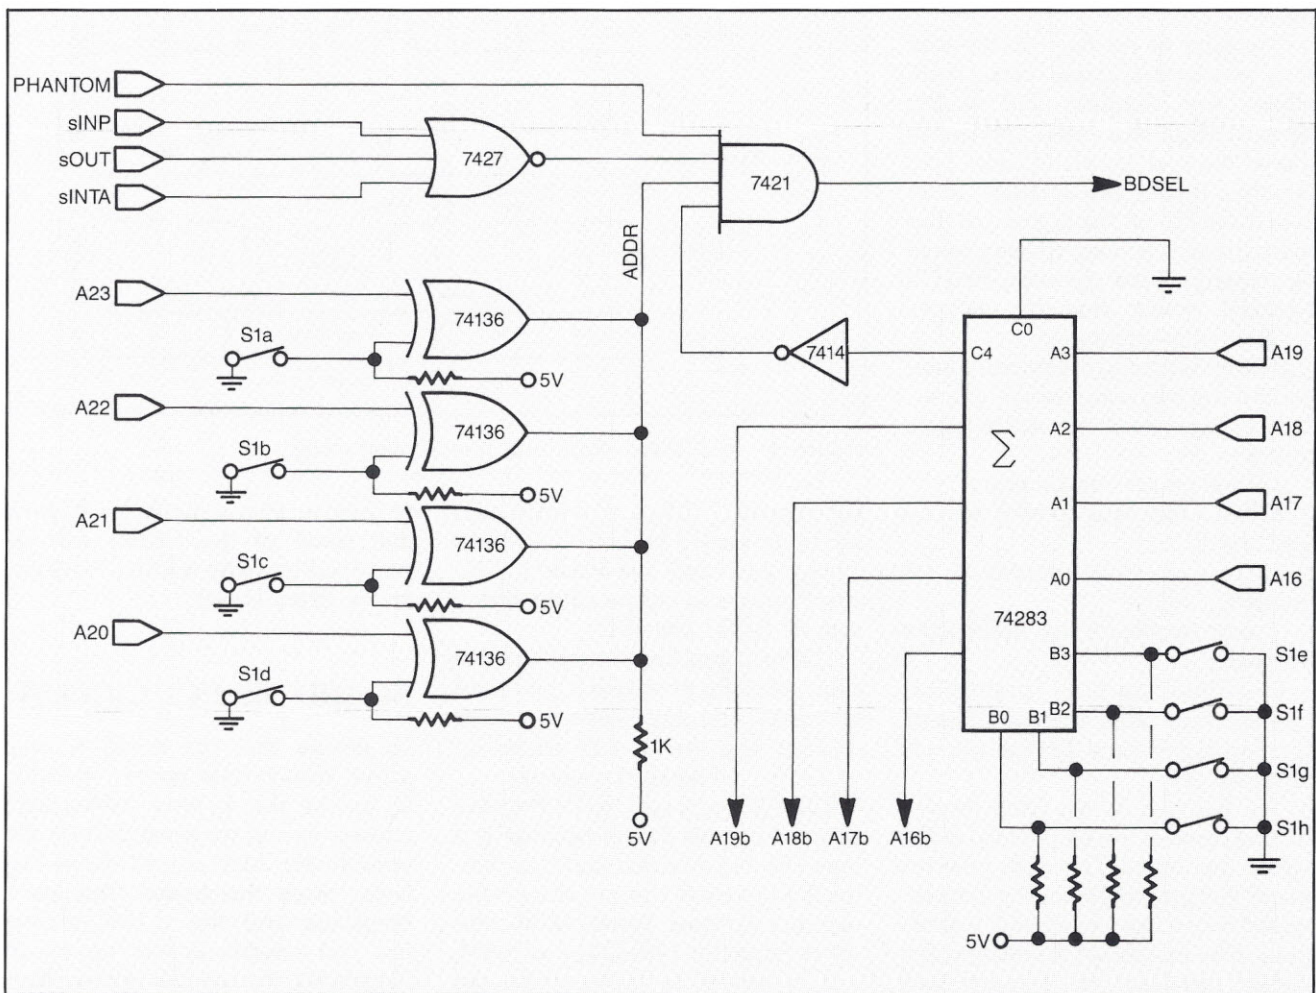
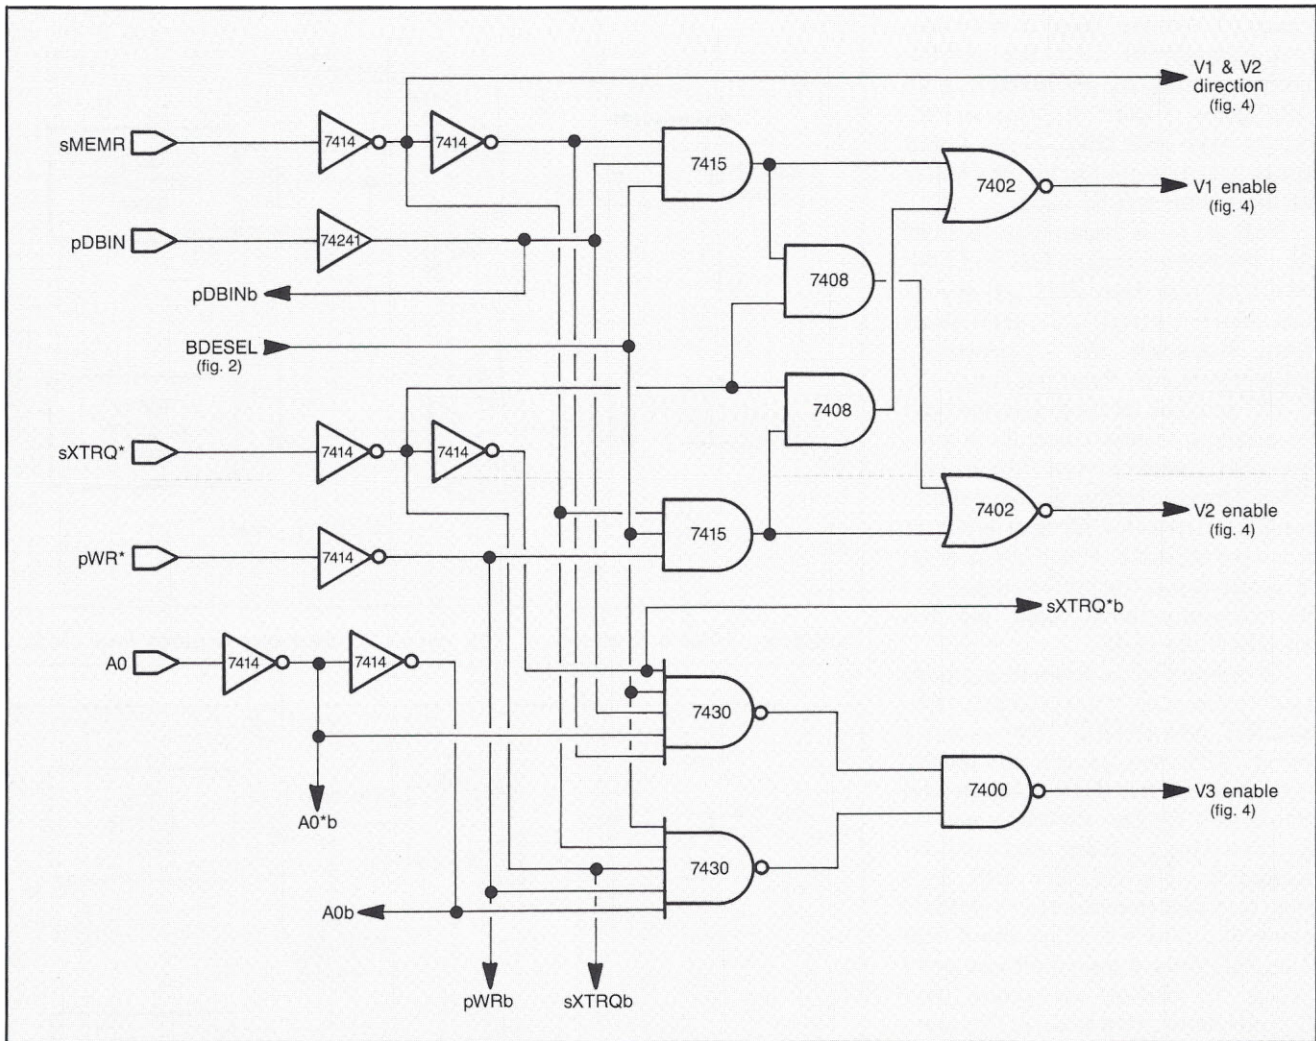
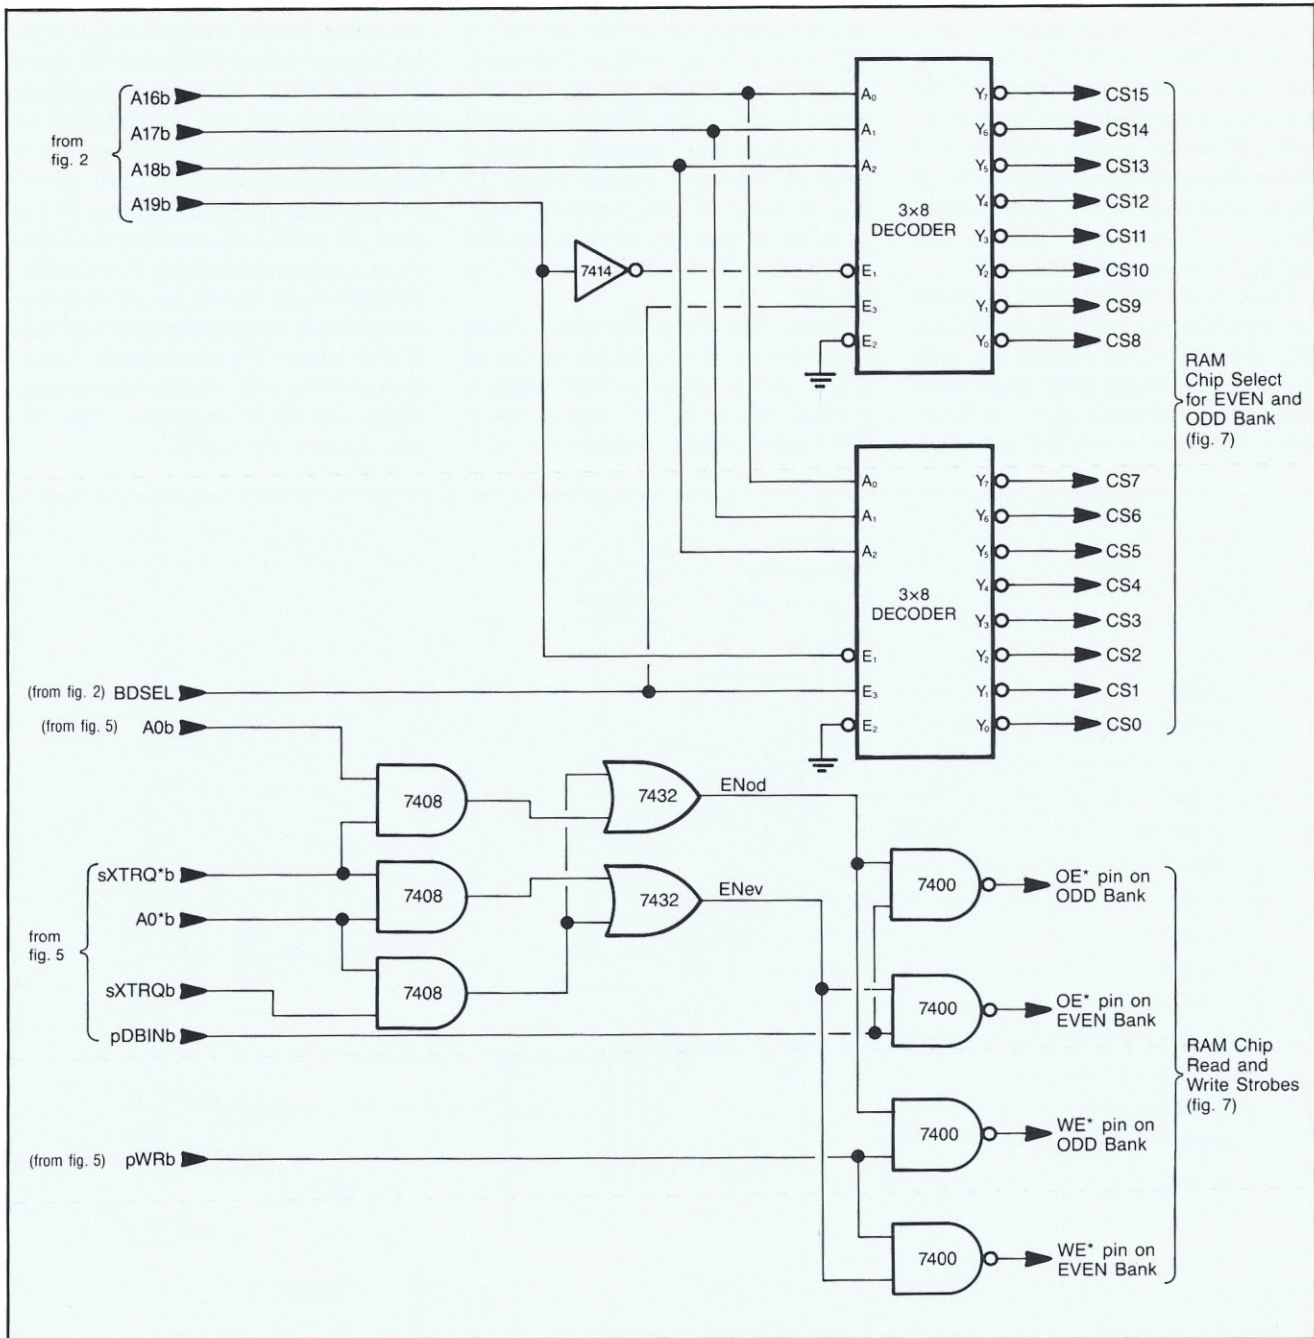

Figure 2. The board-select circuit.
Figure 5. Data bus transceiver control circuit.
Figure 6. RAM chip-select and bank-select circuit.
A circuit that provides an active high signal whenever the board should be selected is shown in Figure 2. The only status lines that need to be decoded are sINP, sOUT, and sINTA since all three will be low only during memory, halt, and idle bus cycles. The switches and open collector exclusive OR gates (74136) function as an address comparator; each corresponding address bit must be 'opposite' to that of the switch setting in order for the comparator's output to be high. Use of PHANTOM* prevents
Notice that Figure 2 uses a 4-bit full adder (74283) in lieu of the magnitude comparator mentioned earlier. This eliminates the requirement for buffering the A16-A19 address lines (A16-A19 will be used by the chip-select circuit later on). When the sum of the address on A16-A19 plus the number selected by S1e-S1h generates a carry out of the full adder, BDSEL is 0 and the board is disabled. When the board is fully populated, S1e-S1h should all be shut (ON).
After considering all of the above, we can write the truth table (Table 3) for the bus transceiver control circuit. Figure 5 shows a circuit that meets the truth table conditions. Notice that the bus transceiver-enable lines are gated with BDSEL (Figure 2) so that the board does not attempt to drive the data bus when it is not selected. All S-100 bus lines are buffered to clean-up signals and minimize bus loading.
Since there are sixteen RAM chips per bank, four address lines are necessary to generate individual chip-select (CS) signals. Addresses A20-A23 were used to generate BDSEL (Figure 2) and we reserve fifteen address lines (A1-A15) for selecting a unique memory location in each RAM chip. This leaves the four address lines A16-A19 to select individual chips.
Figure 6 shows a circuit that selects individual RAM chips in both banks. I chose two 3x8 decoders (74138) instead of one 4x16 decoder (74154) for three reasons. First, the 74138 is available in the faster logic families. Second, the 74138 has both active high and active low enable inputs, simplifying the chip-select circuit design. And third, two 74138s require less board space than one 74154.
Looking back at the design, we notice that the chip/bank-select and bus-transceiver control circuits (Figures 5 and 6) require about 11 ICs. If most of this 'random logic' could be replaced by a single chip, the board space problem would be solved.
The circuits of Figures 5 and 6 require a total of 6 inputs and 8 outputs. These can be replaced by a 16L8A PAL (address decoders will not be replaced). The 16L8A PAL comes in a 20-pin DIP and contains 8 active-low outputs and 10 inputs. It inserts 25 nsec (maximum) of propagation delay from any input to any output. Six of the outputs can be put in a high-impedance state to permit their use as additional inputs. Each output comes from a 7-input NOR gate; therefore, each output equation may contain up to seven product terms.
All of the data bus transceiver control logic in Figure 5 can be absorbed by the PAL. This results in reduced total propagation delay in the transceiver control signal paths since the PAL generates the control signals directly.
This combined with the change made above eliminates the two OR gates (7432) and three AND gates (7408) in Figure 6.
By connecting the binary adder carry-out line (C4), address comparator output, and status lines directly to the PAL, three gates in Figure 2 are eliminated. The BDSEL signal is no longer required to qualify the RAM-chip-select signals. Instead, the read and write strobes to each RAM bank are gated by the PAL via NAND gates (U8 on Figure 9). This results in the RAM-chip-select signals becoming valid approximately 40 nsec earlier than in the design of Figure 6. The status lines are different from those in Figure 2 to simplify the logic equations necessary to program the PAL; sMEMR=1 defines a memory read cycle (and DIR=0) while sOUT=0 AND sWO=1 (or sWO*=0) defines a memory write cycle.
Since there are a few unused pins remaining, we can absorb the 16-bit-acknowledge circuit in the PAL. By using the PAL instead of the circuits of Figures 2 and 8, the response time of the board to sXTRQ* is reduced from 30 nsec to about 15 nsec.